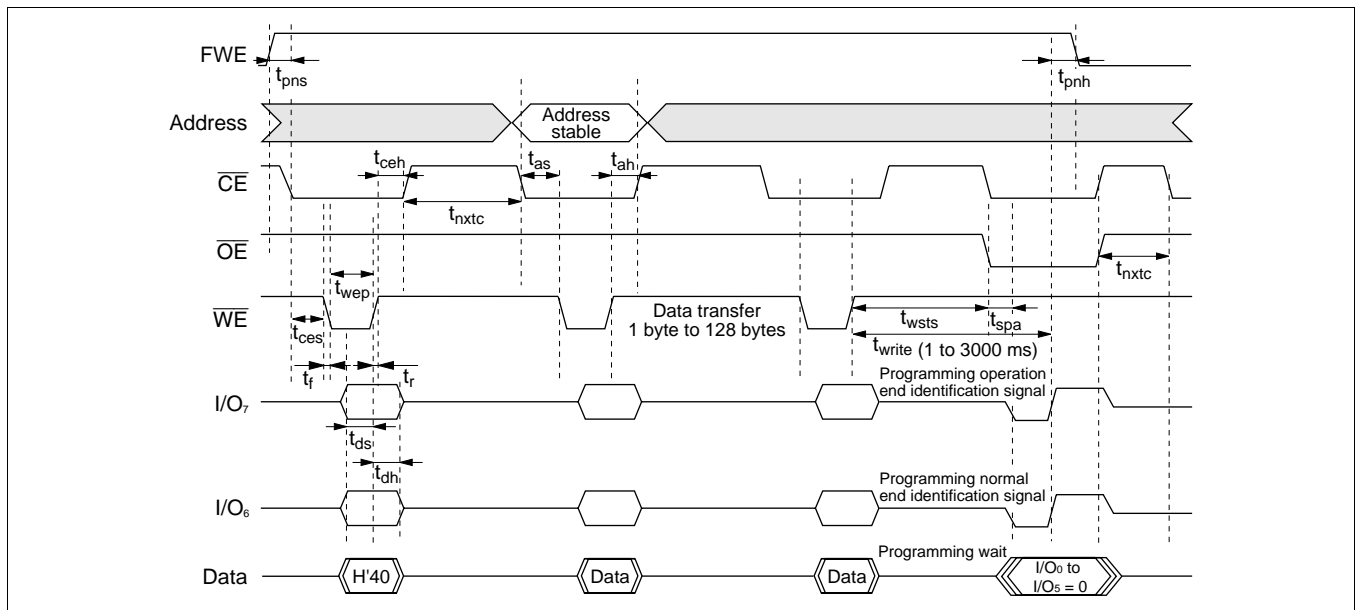

Figure 19-29 Auto-Program Mode Timing Waveforms
- Memory address transfer is performed in the second cycle (figure 19-29). Do not perform memory address transfer after the second cycle.